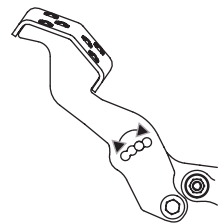

Figure 43
3. Position the pedal to the optimal position based on operator preference. See Figure 43.